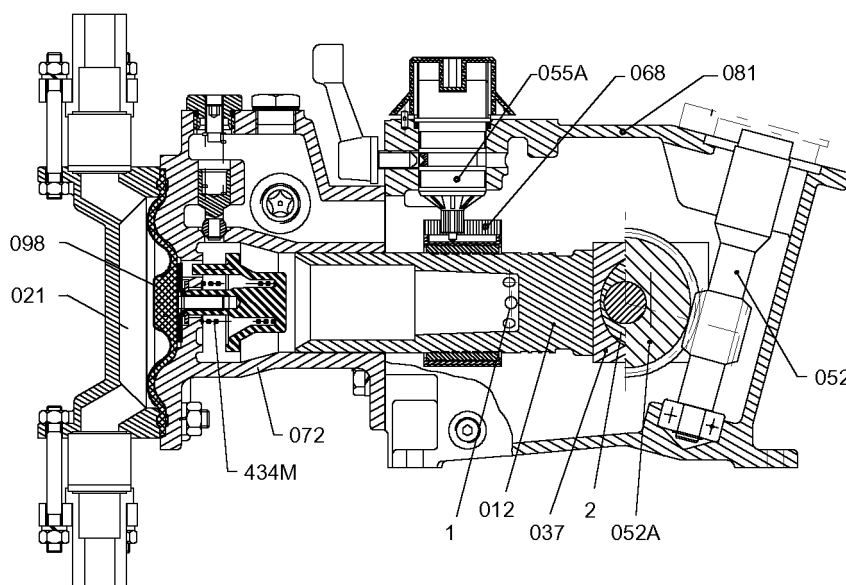

Fig.1
1.2 - FUNKTIONSPRINCIP (Se fig 1)